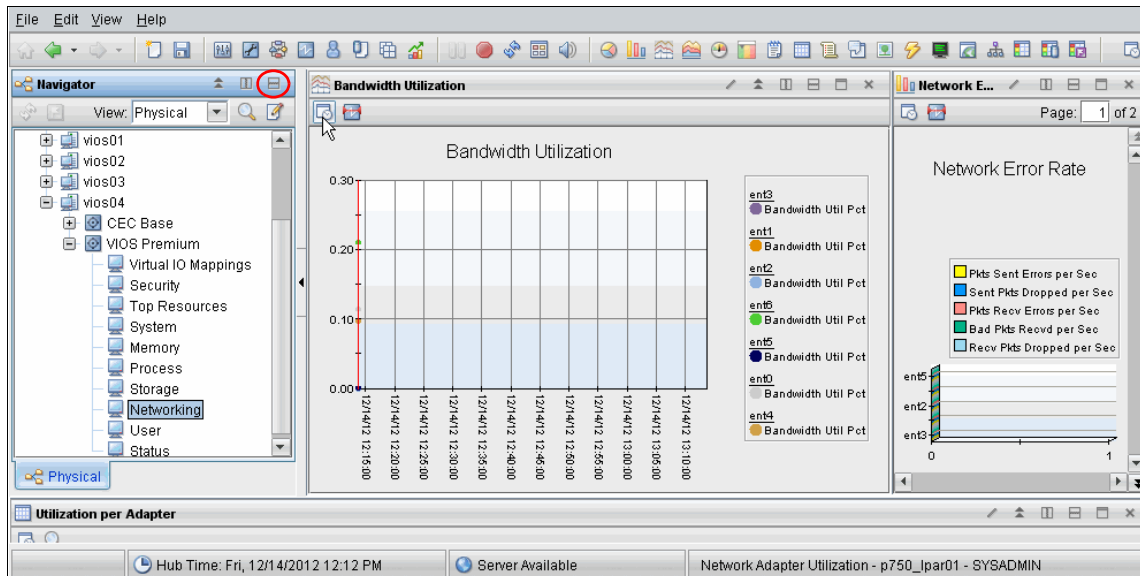

Figure 18-24 Displaying historical data for a chart by clicking the Clock icon
- After data warehousing is enabled, you can specify longer time periods in charts and tables in Tivoli Enterprise Portal workspaces. To do this, first select the chart or table you want to display historical data for. Then, click the icon in the upper left of the pane that has the small clock on it, as shown in Figure 18-24.